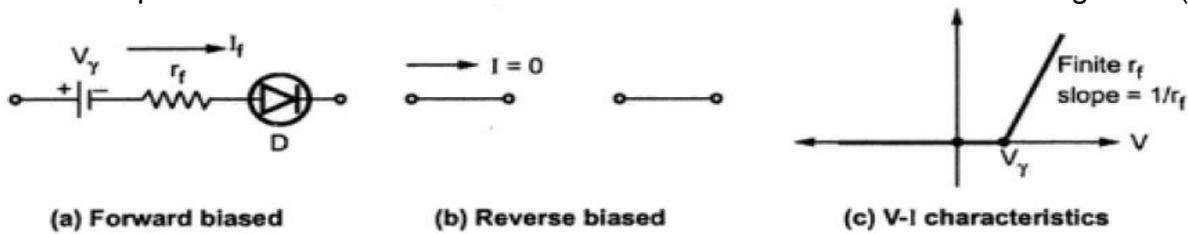

Fig. 1.14 Linear piecewise model of diode with finite  $r_f$
- If **forward resistance** is considered to be **finite**, then forward biased characteristic is a straight line with a slope equal to reciprocal of  $r_f$  and is shown in the fig. 1.14 (a).
- In reverse bias, the diode is still assumed to be open circuited and is shown in the fig. 1.14 (b).
- The linear piecewise model with finite forward resistance  $r_f$  is shown in the Fig. 1.14 (c).